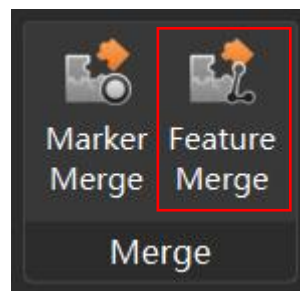

Figure 9-1 Feature Merge Button
2. Click the Feature Merge Button, which is shown in Figure 9-1.